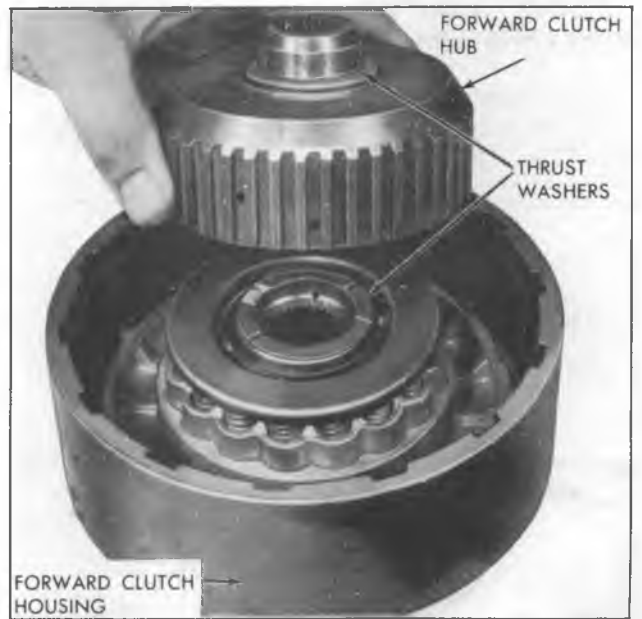
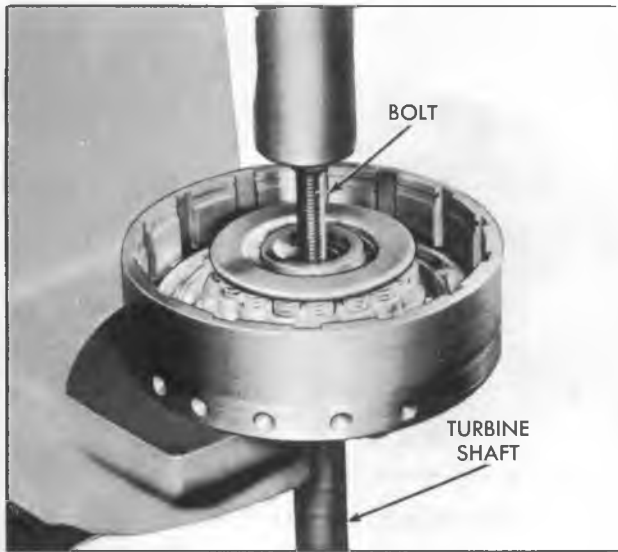

Figure 64—Removing Forward Clutch Hub and Thrust Washers
Figure 65—Removing Turbine Shaft
3. Remove forward clutch hub and thrust washers (fig. 64).
4. Remove five (5) radial grooved composition and five (5) steel clutch plates.
5. If necessary place forward clutch and turbine shaft in arbor press and remove turbine shaft (fig. 65).
NOTE: Turbine shaft and clutch housing are serviced separately. Shaft may be removed from housing by using a suitable size socket in an arbor press (fig. 65).